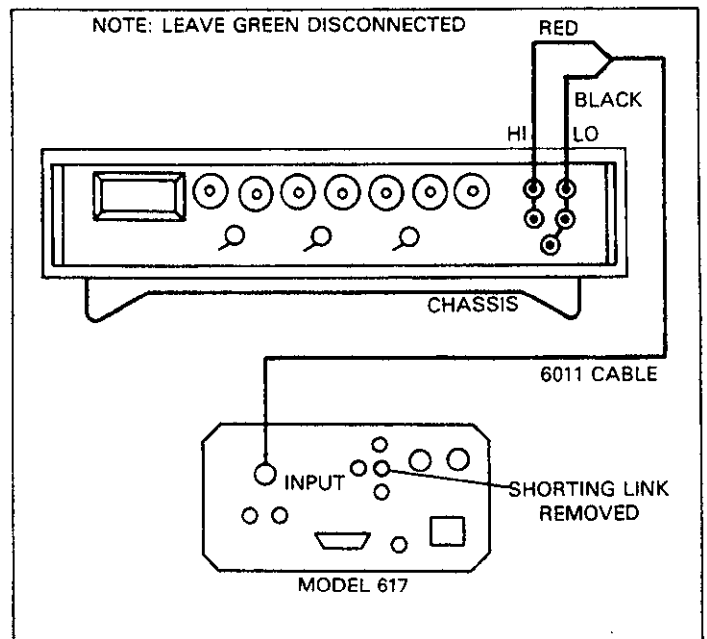

Figure 7-7. Connections for Volts Calibration
2. Set the DC calibrator to 0V and connect it to the instrument, as shown in Figure 7-7.